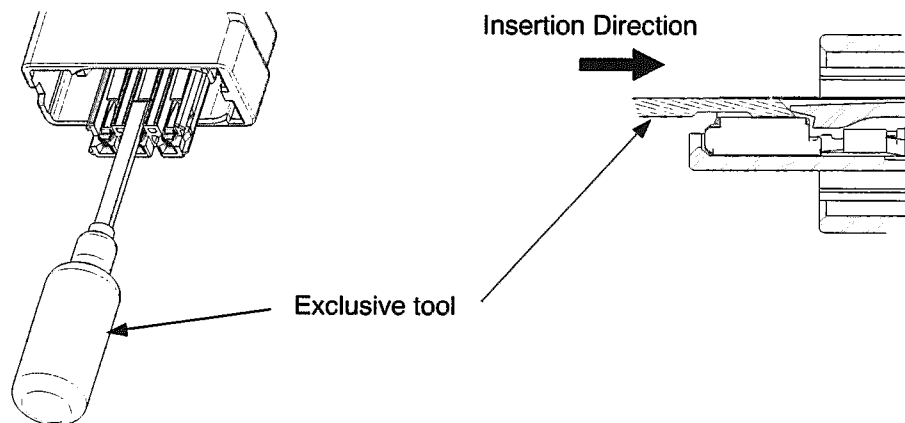

Fig. 13
(2) Extract contact with pulling the crimped wire while inserting extraction jig(PN 1729919-1) straight and pressing the latch slightly. See Fig.13